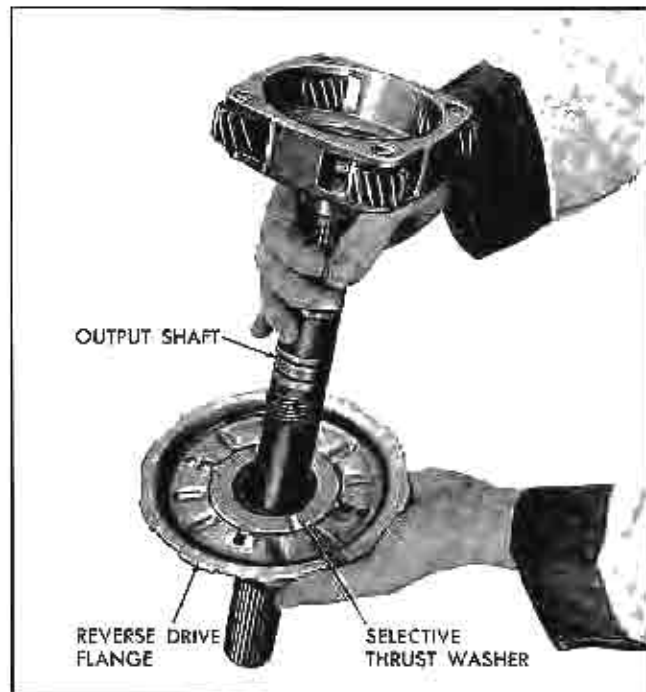

Fig. 84 Assembling Reverse Drive Flange to Output Shaft
2. Still holding reverse drive flange and sun gear in left hand, insert output shaft with right hand through drive flange and sun gear until carrier bottoms on selective thrust washer (Fig. 84).